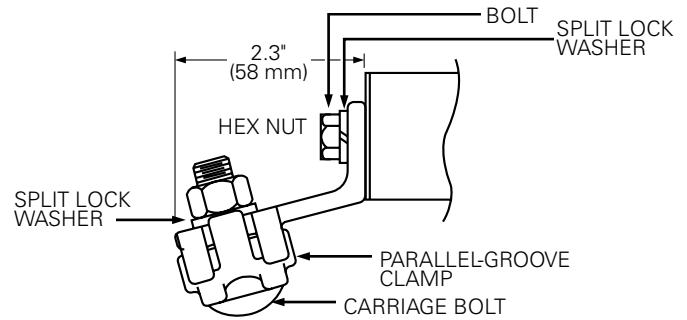

Figure 15. Large parallel-groove terminal (250 mcm).
2. Place the split lock washer onto the bolt and insert the bolt through the connector hole into the tapped center hole of the fuse and torque the bolt to 10-15 ft-lbs. (Figure 15.)
3. Assemble carriage bolt, parallel-groove clamp, split lock washer and hex nut on the connector as shown in Figure 15.